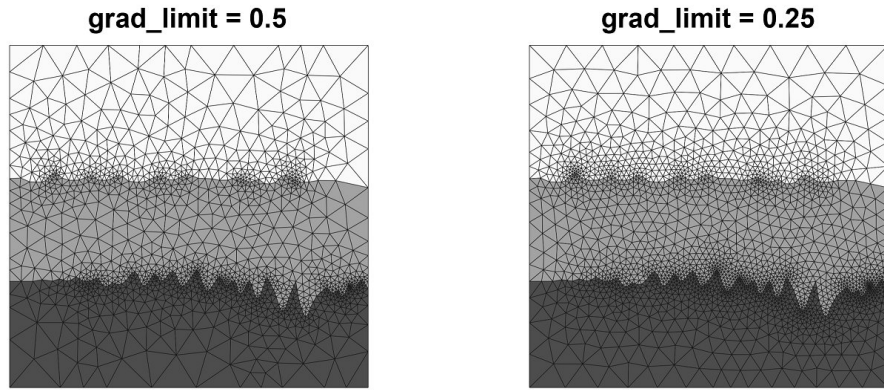

Figure 10: Effect of *Gradient-limit*
- *Gradient-limit*: A limit on the gradient of mesh-size function (Figure 10).⁶ Type: Float. Range: > 0. Typical value: 0.15 - 0.4.